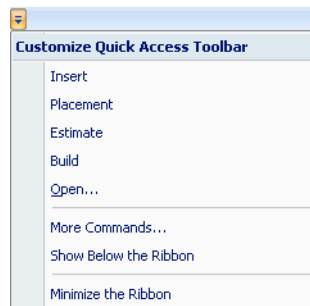

Figure 5-61: *Customize Quick Access Toolbar* menu
- From the *Customize Quick Access Toolbar menu* (see figure 5-61 on page 45), select *More Commands*.